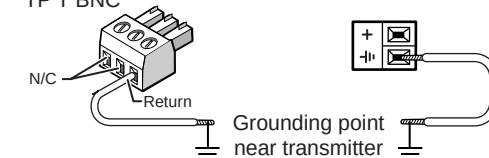

Figure 2-3 — Grounding the transmitter
- **TP T 15 HD A, TP T 15HD AV, and TP T BNC only** — Use a 3.5 mm captive screw connector to connect a ground wire between the power return pin (figure 2-3) and a grounding point near the transmitter, such as a grounded power outlet or an equipment rack.
- **TP T 460/468 only** — Connect a ground wire between the power return pin (figure 2-3) of the 3.5 mm, 2-pole direct-insertion captive screw connector on the rear of the transmitter and a grounding point near the transmitter.